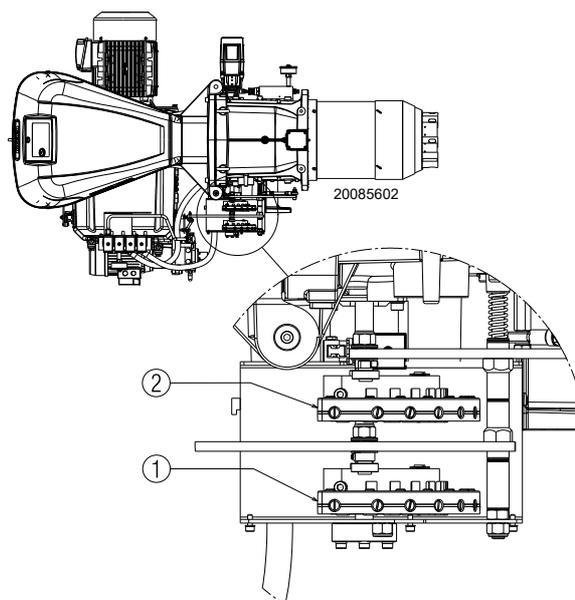
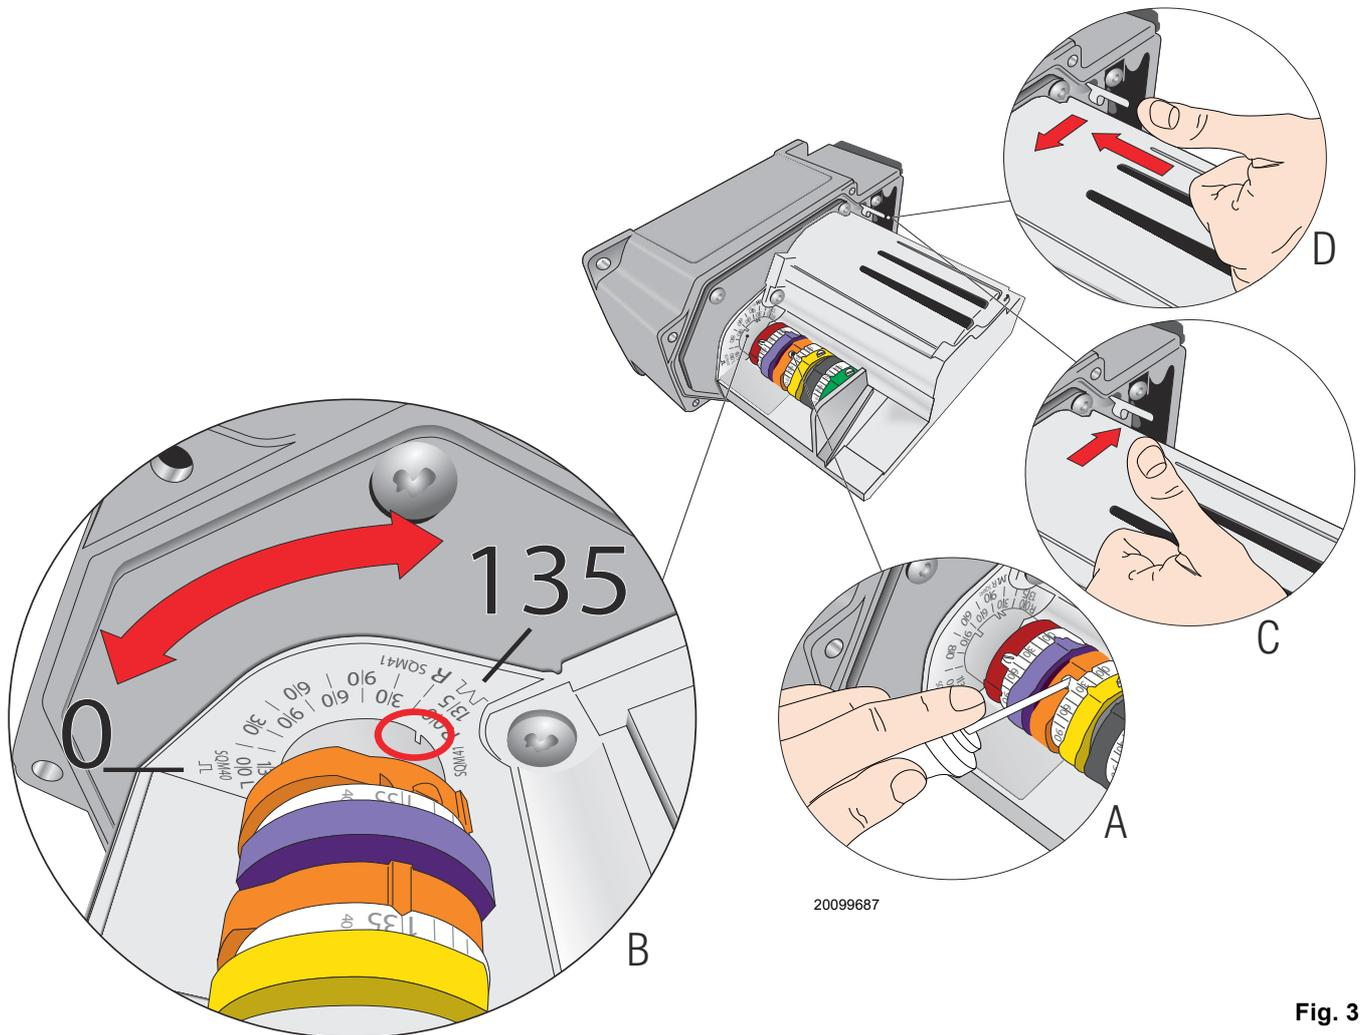

Fig. 35
Fig. 36
The fuel/combustion synchronisation is done by means of a servomotor connected to two variable profile cams, which act on the air dampers 1)(Fig. 35) and gas dampers 2)(Fig. 35). It is advisable, to reduce the loss and for a wide calibration field, to adjust the servomotor to the maximum of the output used, the nearest possible to the maximum opening (130°). On the gas butterfly valve, the choking of the fuel according to the required output, is carried out using the cam 2)(Fig. 35).
- Screw or unscrew the screw 2) of the mechanical cam (Fig. 35 on page 35) to increase or decrease the gas output so as to adjust it to the corresponding air output, to obtain optimal combustion.
Key (Fig. 35)
To adjust the cam of the servomotor, see Fig. 36 A).
Progressively adjust the initial profile of the mechanical cam 2) Fig. 35, using the screws 2) Fig. 35.
The regulation of the air is carried out by varying the angle of the cam III) of the servomotor Fig. 30 and by using the selector 2)(Fig. 31 on page 31). To adjust the cam of the servomotor, see Fig. 36 A).
To adjust the cam III) Fig. 30, see Fig. 36 A) and B).
Switch off the burner using the switch 1)(Fig. 31), OFF position, release the mechanical cam I) and II)(Fig. 33)(Fig. 35) to separate the gears of the servomotor, pressing and shifting downwards the button 3)(Fig. 36 D) and by manually turning several times the mechanical cam I)(Fig. 33) backwards and forwards check that the movement is smooth and without any hindrance.
We recommend binding the mechanical cams I) and II) again (Fig. 33)(Fig. 35) to the servomotor by shifting upwards the button 3)(Fig. 36 C).